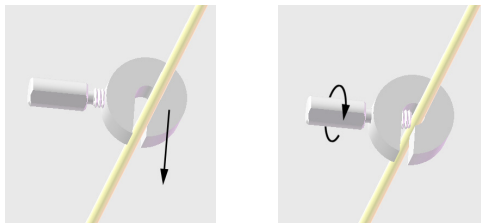

Figure 2: Applying the DBS Lead Stop
- Measure the desired depth of DBS Lead with a gauge or ruler and apply the DBS Lead Stop at that length. To apply the DBS Lead Stop, push the DBS Lead to the center of the Lead Stop and then tighten the Screw (Figure 2). This will ensure that the DBS Lead will be inserted to the proper depth.